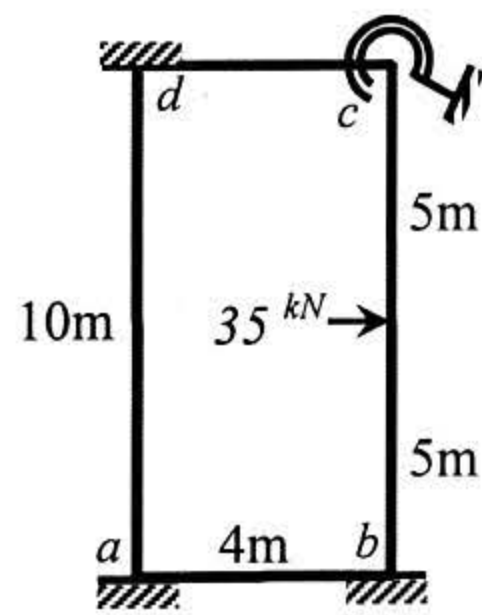

Fig.6
- c. Use the Stiffness Method (neglect axial deformations) to calculate the rotation at joint *c* of the frame loaded as shown in *Fig.6*, if the support at *c* is a circular foundation of radius 3m on the surface of sub-soil (half-space) with shear-wave velocity (v_s) equal to 50m/sec [Given: $EI = 20 \times 10^3 \text{ kN-m}^2$, Unit weight of soil = 18 kN/m^3 , Poisson's ratio = 0.25]. [6 marks]